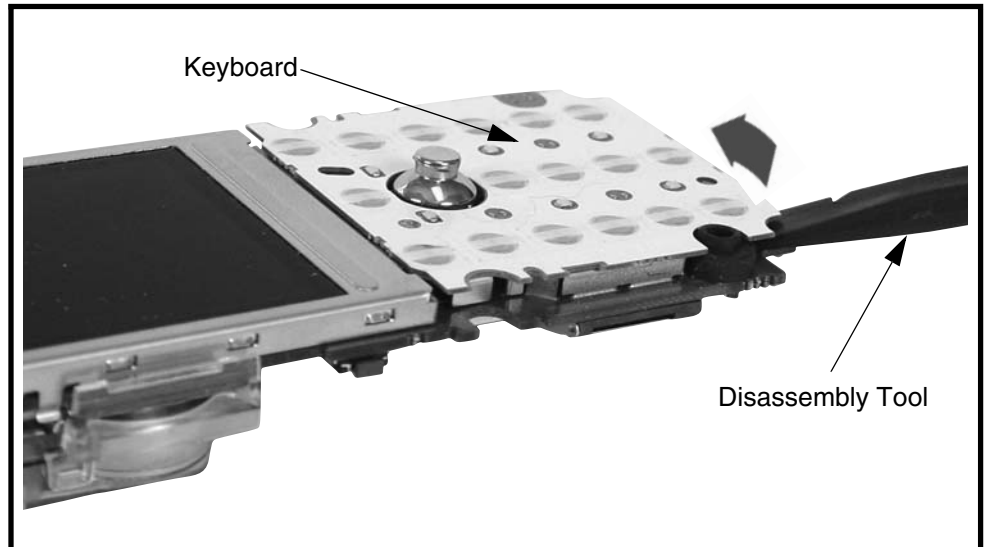

Figure 9. Removing and Replacing the Keyboard
2. Using the disassembly tool, gently pry up the keyboard disconnecting it from the transceiver PC board as shown in Figure 9.